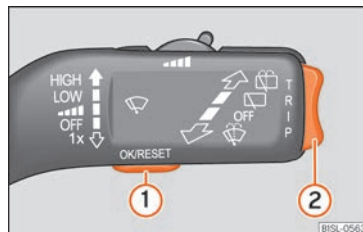

Fig. 62 Windscreen wipers: buttons to access the instrument panel menus
- With the ignition switched on, and displaying memory 1 or 2, briefly press button  >>> Fig. 62 ① to change from one memory to another
As long as a priority 1 » page 66 warning is active, it will not be possible to access any menu. Some warnings can be confirmed and hidden with the button » Fig. 62 ①.